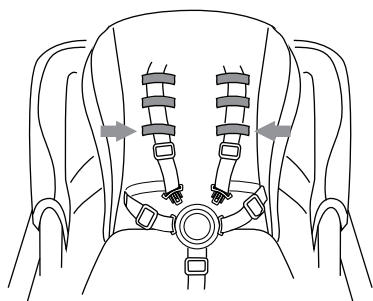

Fig.10a
- 10) • The shoulder straps of the 5-point harness have 3 attachment positions. Select the position that places the shoulder strap level with, or below the top of the child's shoulder (Fig. 10a).